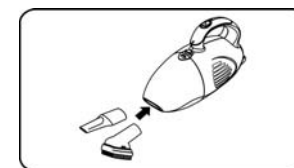

Fig. 4
2. To attach the convertible brush (8), or crevice tool (11) to the Hand Vacuum, push the attachment into the suction hole, as shown in Fig.4.